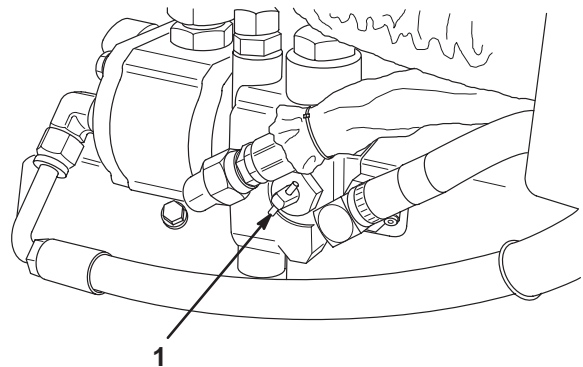

Figure 37
1. Locate the bypass valve on the pump (Fig. 37) and rotate it 90° (the bypass valve lever should be horizontal when it is open).